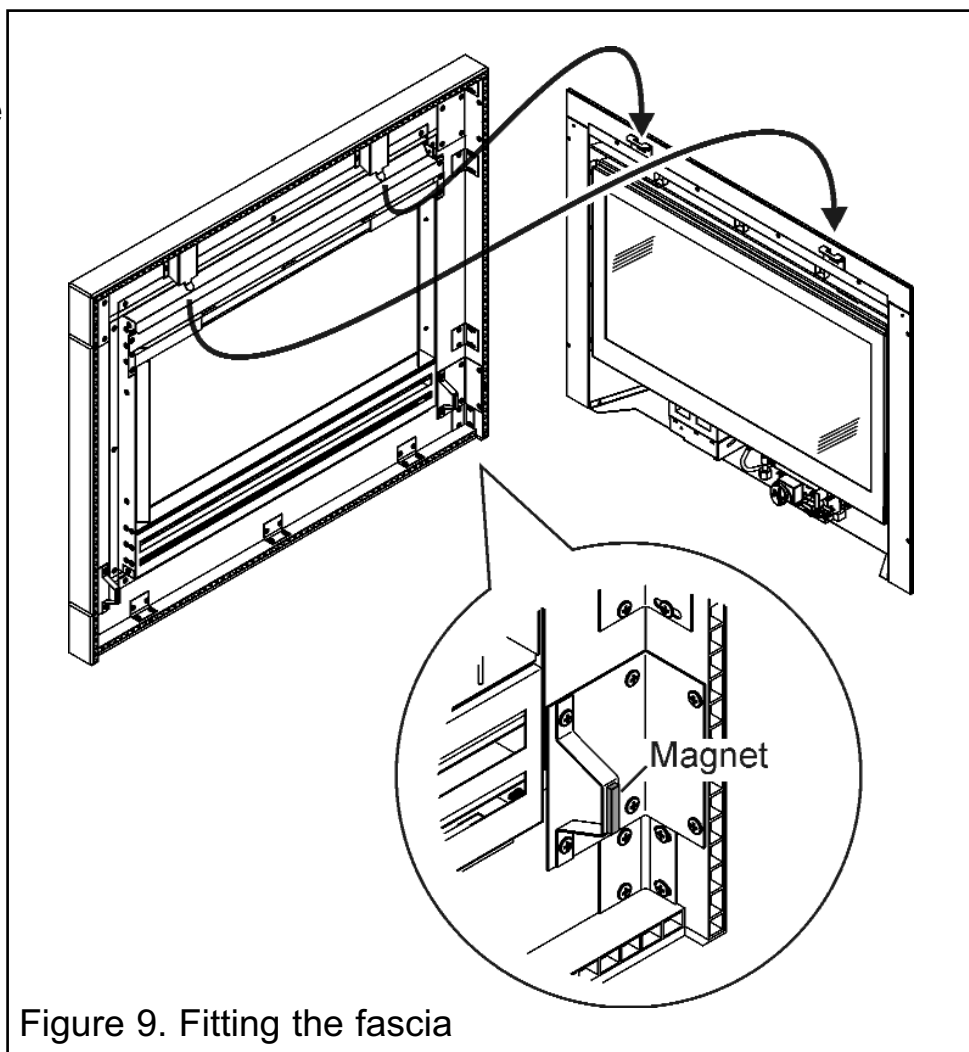

Figure 9. Fitting the fascia
4. The fascia bottom is held in place with magnets, ensure that these are located as in figure 9. To fit the fascia, place the top rear of the fascia against the fireplace front surface so that the two retaining plates at the back of the fascia are directly above the two retaining brackets on the convection box. Keeping the lower part of the fascia clear of the fire body, lower the fascia making sure that the rear
retaining plates locate fully into the retaining brackets on the convection box (See figure 9). The fascia bottom is held in place with magnets.